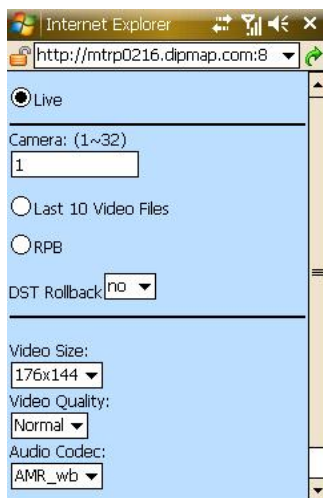

Figure 9-25
2. Select the desired camera on the screen (Figure 9-25), and then select **Last 10 Video Files** or **PRB**.